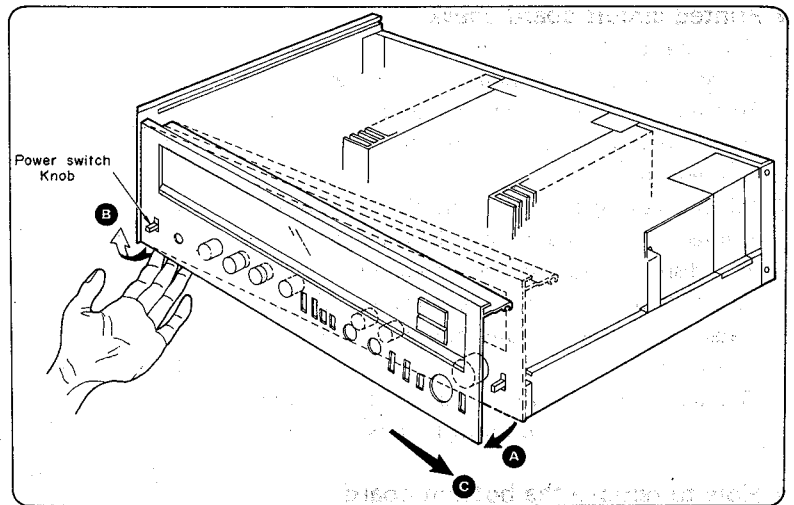

Fig. 3
6. Move the front panel in the direction of the arrow **A** in Fig. 3. Next, holding the left bottom of the front panel, move it in the direction of the arrow **B** until the power switch knob is disengaged from the hole of the front panel, and then remove the front panel. (arrow **C**)